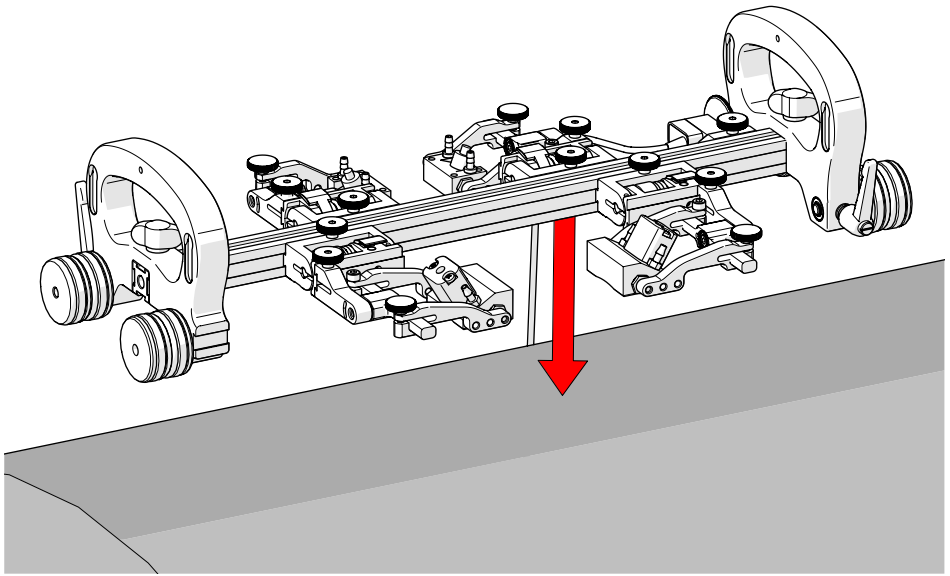

Fig. 84 - Place on scan surface
4. Place the configured **STIX** on the scan surface (Fig. 84).